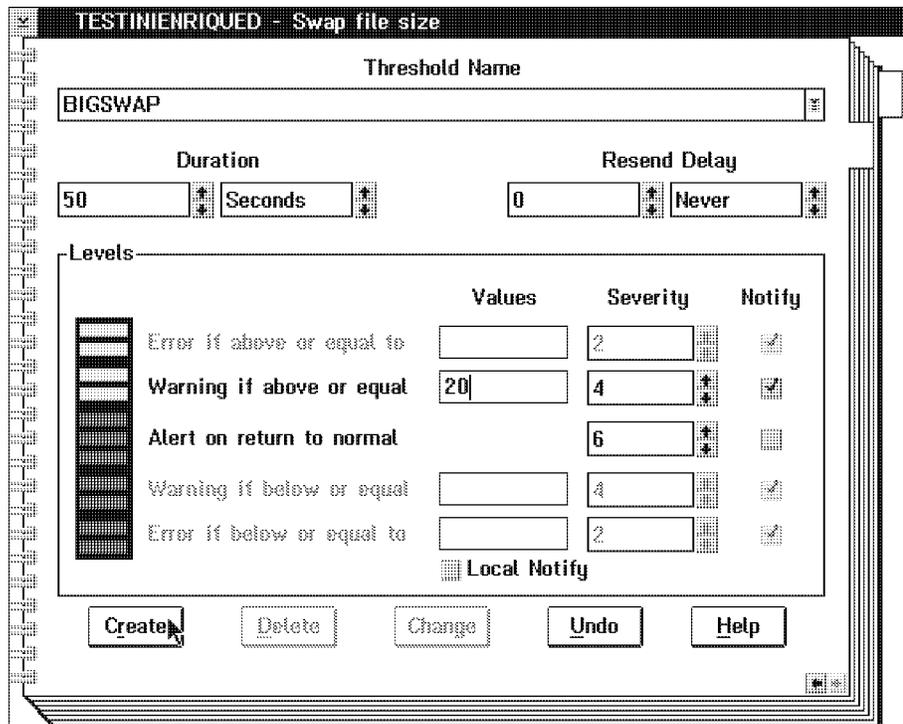
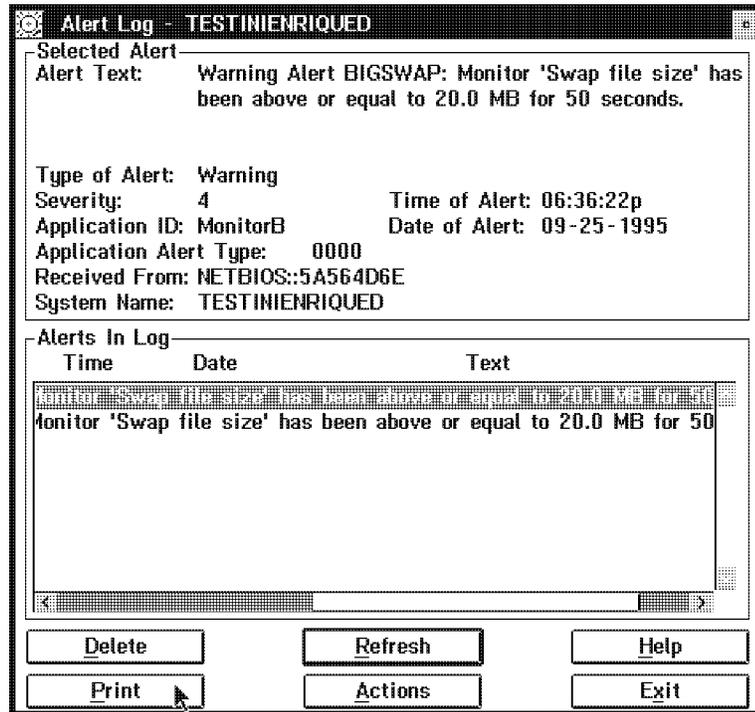

Figure 53. Setting Thresholds
Figure 54. Viewing the Alert Log
- **Open & Threshold**— Configure System Monitor thresholds (see Figure 53 on page 63).
You can create different profiles, including the following parameters (see Figure 53 and Figure 54 on page 65):